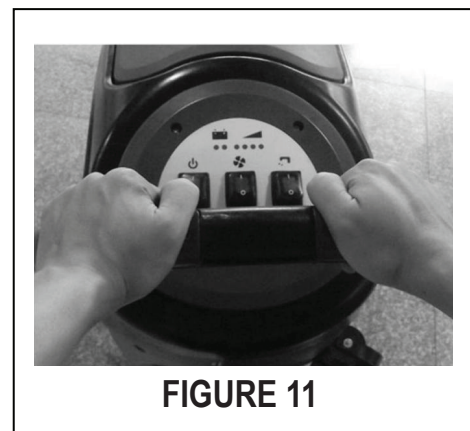

FIGURE 11
2. Hold the on / off switch (1) (Figure 11), push to move the machine, and start the scrubbing.